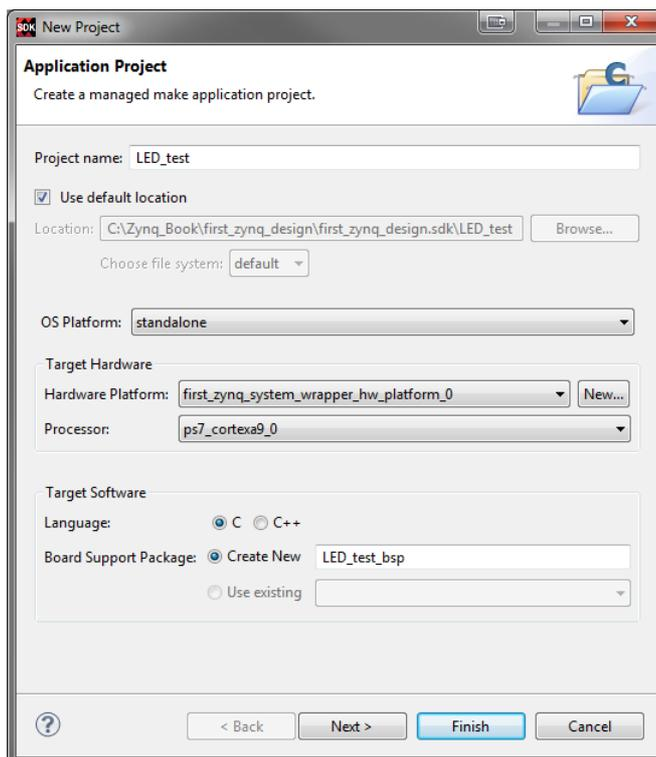

Figure 1.27: New Application Project Dialogue
- (b) The *New Project* dialogue window will open. Enter **LED_test** in the *Project name* field, as shown in Figure 1.27, keeping all other options with the default settings. Click **Next** (Be careful not to select *Finish*).